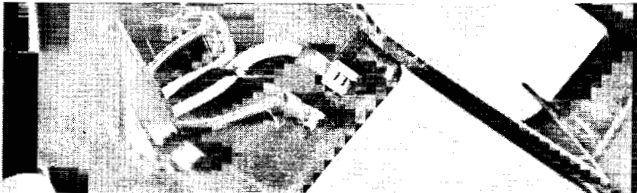

Figure 5.2
5.2 CHECK BATTERY CONNECTIONS (fig. 5.2)